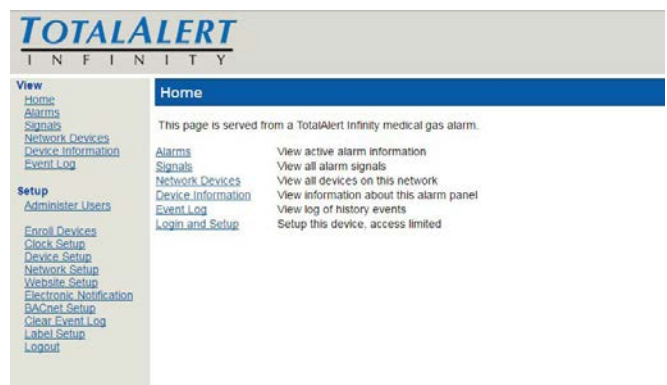

Figure 234
3. The left side bar will now contain the "Label Setup" link. (See Figure 234)